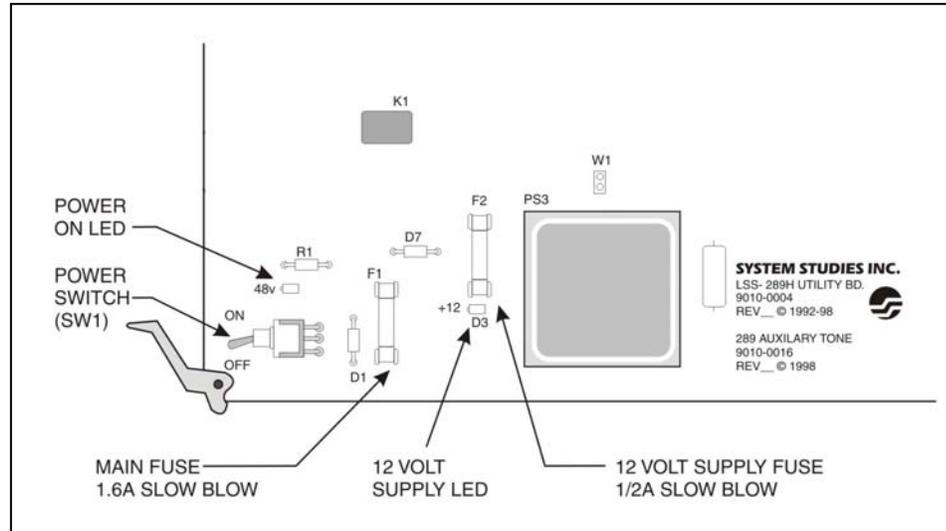

FIGURE 3-2: 289H UTILITY CARD POWER SWITCH
5. Locate the Utility Card (or Tone Utility Card). Make sure that the power switch on this card is in the OFF position (see FIGURE 3-2).